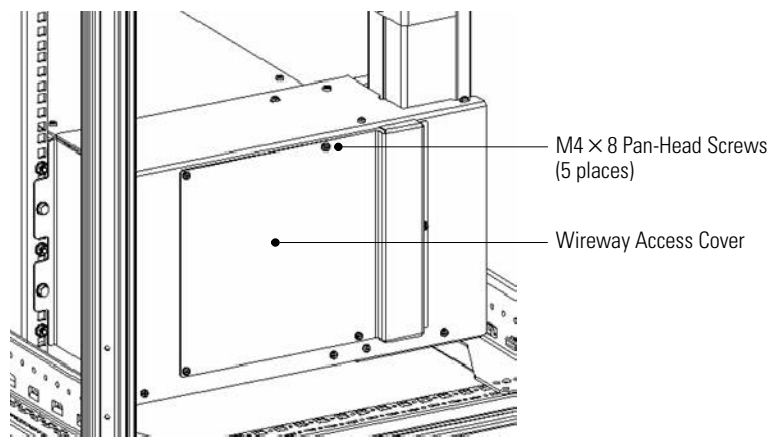

Figure 9. Wireway Access Cover Installation
19. Using five M4 × 8 pan-head screws, install the wireway access cover. See Figure 9. Torque the screws to 1.7 ± 0.2 Nm (15 ± 2 lb in).